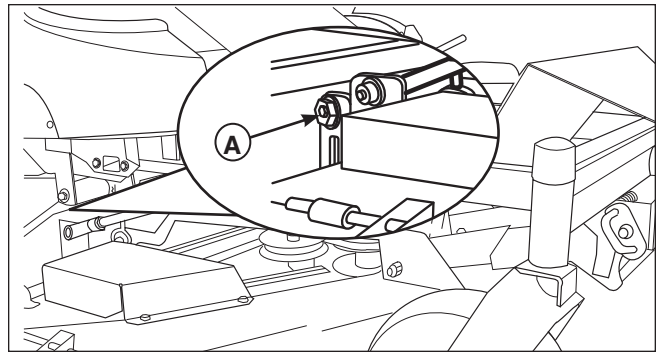

Figure 42. Roller Bar Leveling
5. Locate the roller bar leveling eccentric and locknuts (A, Figure 42). Loosen the locknut and turn the eccentric to raise or lower a side. When the correct level is achieved, hold the eccentric with a wrench and tighten the locknut. Repeat step 4 if necessary.